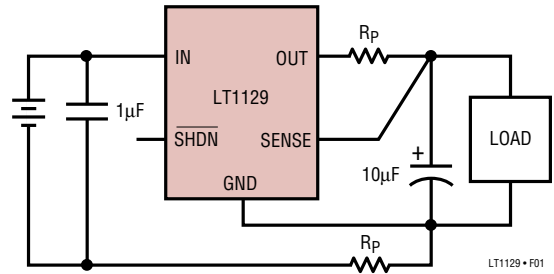

Figure 1. Kelvin Sense Connection
**Sense Pin:** For fixed voltage versions of the LT1129 (LT1129-3.3, LT1129-5) the sense pin is the input to the error amplifier. Optimum regulation will be obtained at the point where the sense pin is connected to the output pin. For most applications the sense pin is connected directly to the output pin at the regulator. In critical applications small voltage drops caused by the resistance ( $R_P$ ) of PC traces between the regulator and the load, which would normally degrade regulation, may be eliminated by connecting the sense pin to the output pin at the load as shown in Figure 1 (Kelvin Sense Connection). Note that the voltage drop across the external PC traces will add to the dropout voltage of the regulator. The sense pin bias current is 15μA at the nominal regulated output voltage. This pin is internally clamped to -0.6V (one  $V_{BE}$ ).